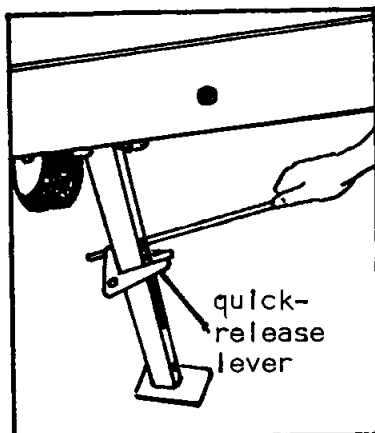

FIGURE 7
15. Remove the stabilizer handle from the recommended stowage area in the access door. Using the stabilizer jack handle, extend the inner legs of the stabilizer jacks to stabilize the trailer, making sure the handle is inserted through rear hole. Remove jack handle and stow. See Figure 7.